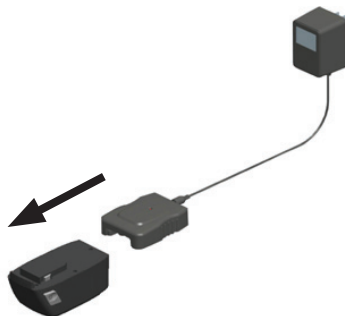

Figure 3 - Slid Charger onto Battery
3. Slide the charger onto the battery pack as shown in Figure 3. The LED will light up. Let the battery pack charge until red LED turns off. After the initial charge, under normal usage, your battery pack should be fully charged in 3 to 9 hours.